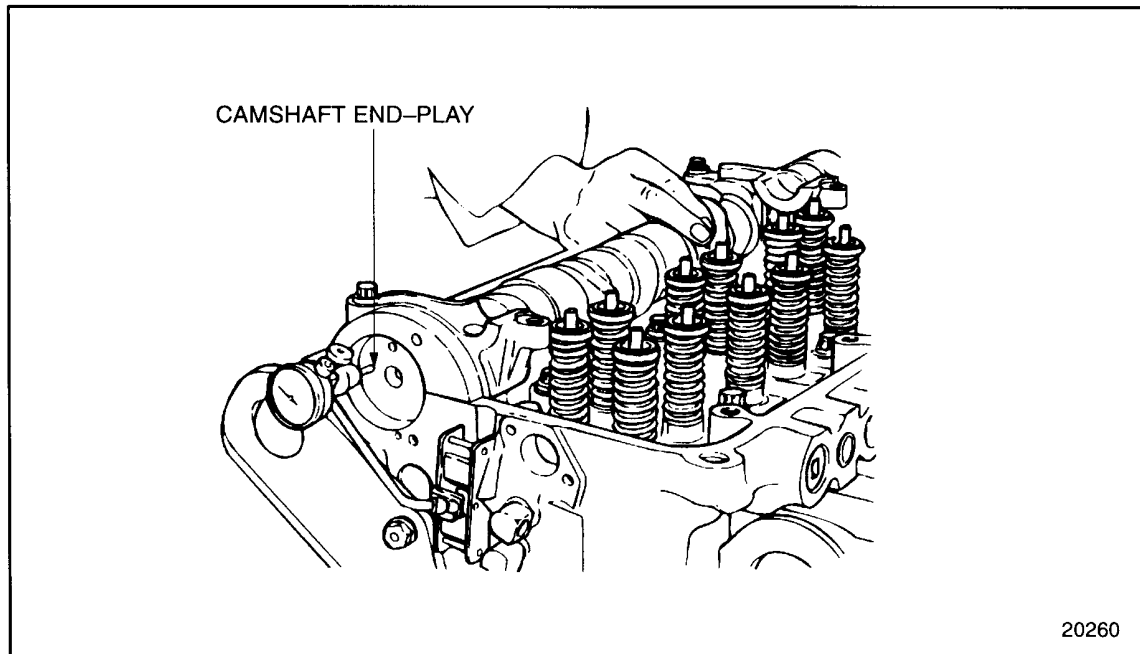

Figure 1-312 Camshaft End Play
1. Install the dial indicator so that the pointer is in contact with either the camshaft drive gear-to-camshaft retaining bolt, or at the rear end of the engine, in contact with the end of the camshaft. See Figure 1-312.